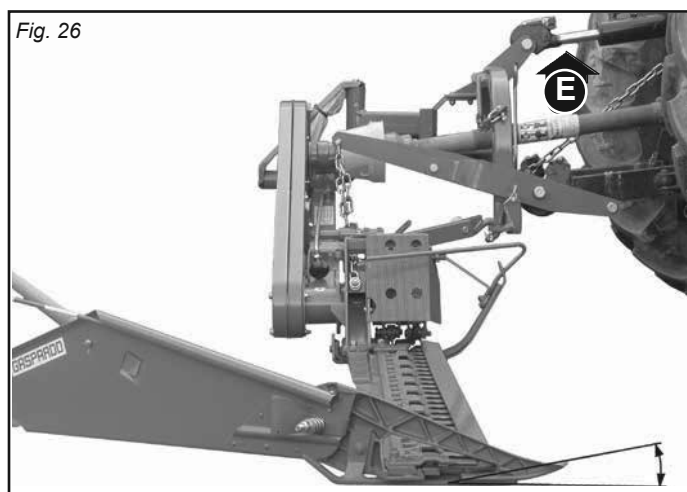

Fig. 26
- Adjust inclination of the cutting arm teeth using tie rod (E, Fig. 26).
- for low, moist and thick fodder, tilt the teeth downwards by shortening the tie rod (E, Fig. 26).
- for ground with rocks and stones tilt the teeth upwards by lengthening the tie rod (E, Fig. 26).